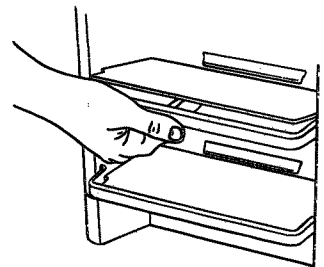

Figure 32
- Remove second servers from shelf. Remove floor of shelf by lifting up from bottom of top shelf, lift floor up and out. See Figure 32.